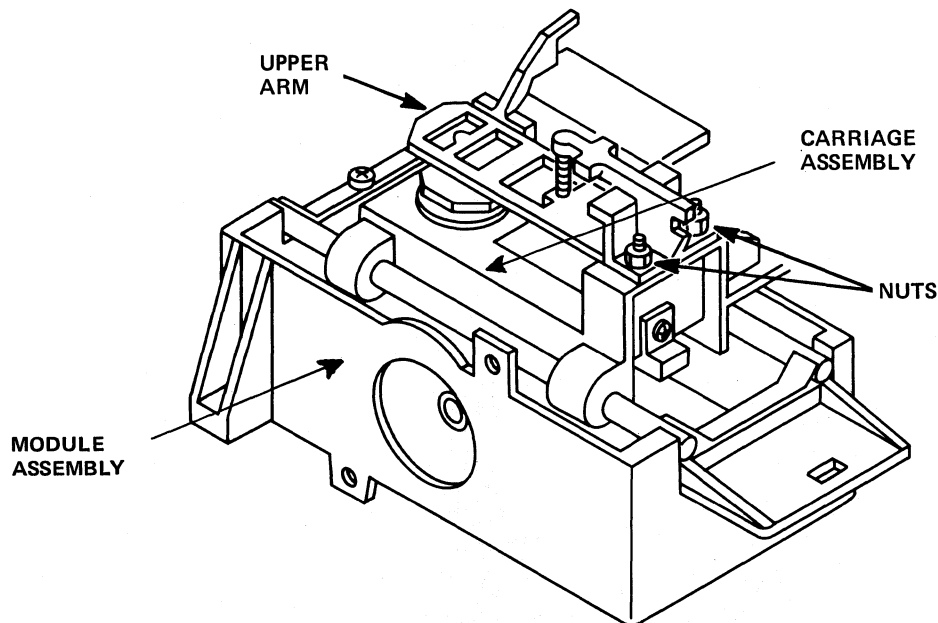

Figure 2-10
2.4.2.1 Turn the two (2) nuts that attach the upper arm to the carriage assembly (see Figure 2-10) counterclockwise one-quarter (1/4) turn with a 3/16" nut driver.